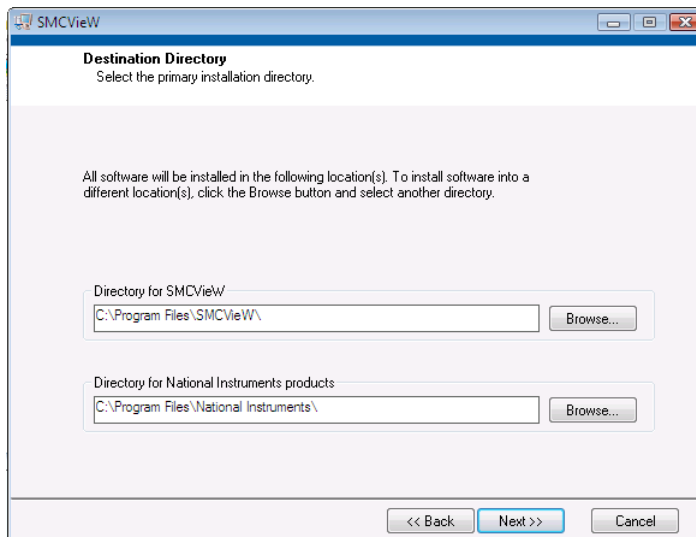

Figure 42. SMCView 3rd installation screen
- Select destination folders and press the "Next>" button (see Figure 42).